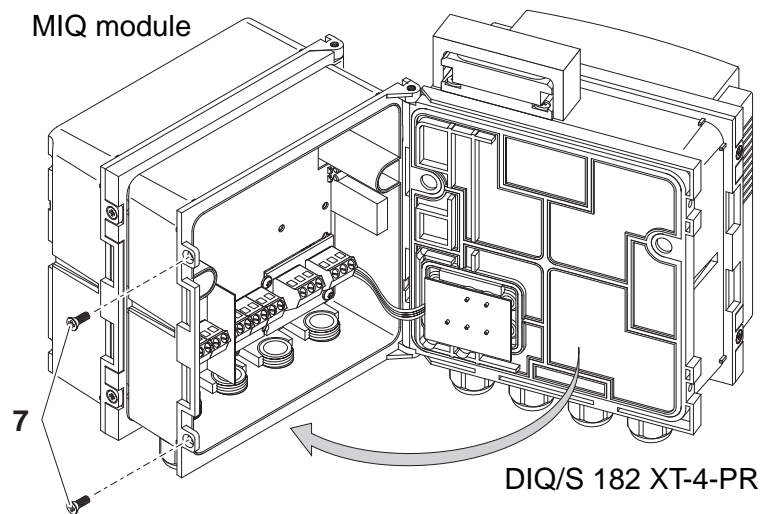

Fig. 3-6 Closing the enclosure (variant 1)
| 8 | Close the cover of the DIQ/S 182-XT-4-MOD and fix it in place with the two countersunk bolts (pos. 7 in Fig. 3-6). |